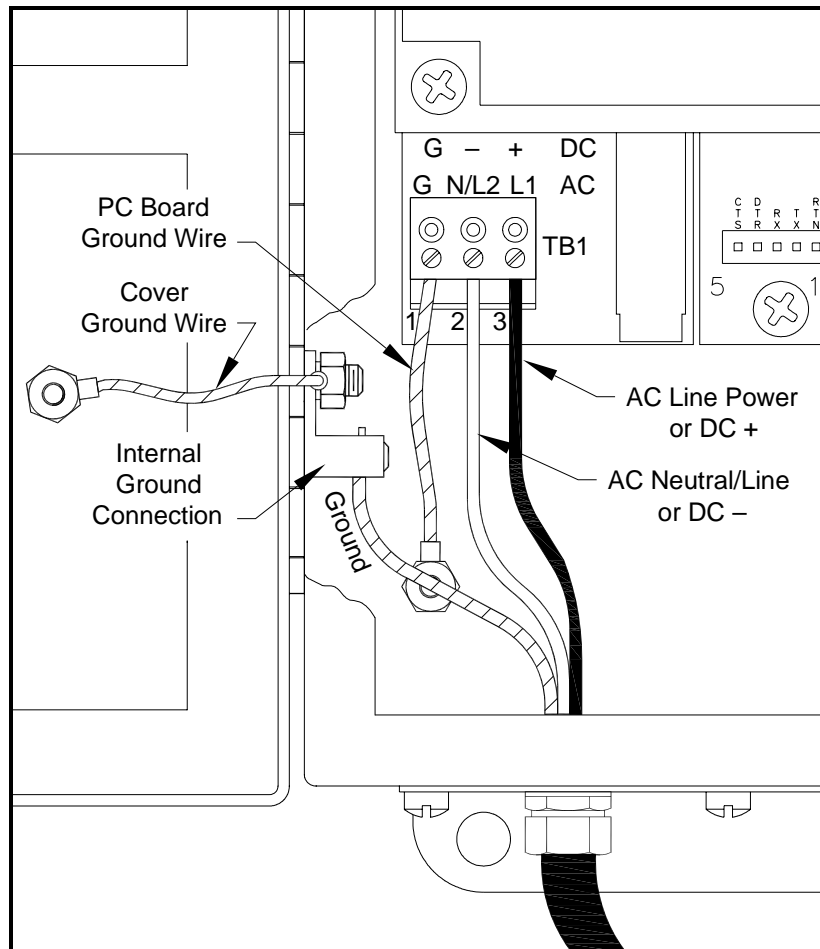

Figure 1-3: Wiring the Line Power
Refer to Figure 1-3 on page 1-8 or Figure 1-9 on page 1-18 to locate terminal block TB1 and connect the line power as follows:
3. Connect the ground lead to the internal ground connection located on the side panel of the enclosure (see Figure 1-3 below).
4. Connect the neutral or line lead (or the negative – DC power lead) to TB1-2 and the line power lead (or the positive + DC power lead) to TB1-3 as shown in Figure 1-3 below.